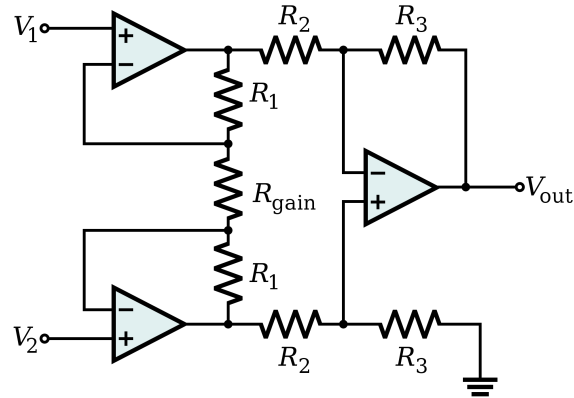

Figure 3: An inside look at an instrumentation amplifier.
The ECG signal is a small voltage difference between two electrodes on the order of a few millivolts. An instrumentation amplifier (IA) can be used to take the difference between the voltages of two electrodes and gain up the resulting difference so it can be seen on an oscilloscope and sampled by an Analog-to-Digital converter (ADC). The INA114 is made up of 3 op-amps: two op-amps at the inputs that buffer the input signals and a third op-amp that acts as a differential amplifier (see Figure 3). Because the IA has high input impedance like an op-amp, little current flows from the input voltages V_1 and V_2 and little voltage is dropped across its source resistance, so you can assume that it takes the difference between the voltages placed at its inputs.